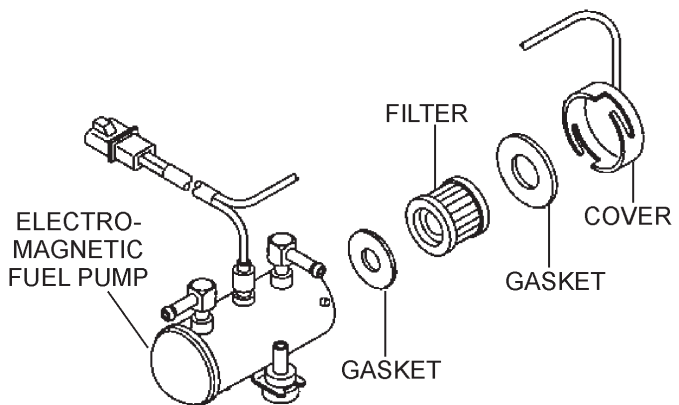

Figure 67. Electromagnetic Fuel Pump
The filter inside the **electromagnetic fuel pump** (Figure 67) is either a paper type or steel mesh type depending on the fuel pump type. Clean or replace the fuel pump filter as follows:
4. Remove the **filter** and **gaskets** (Figure 67) from the fuel pump housing.